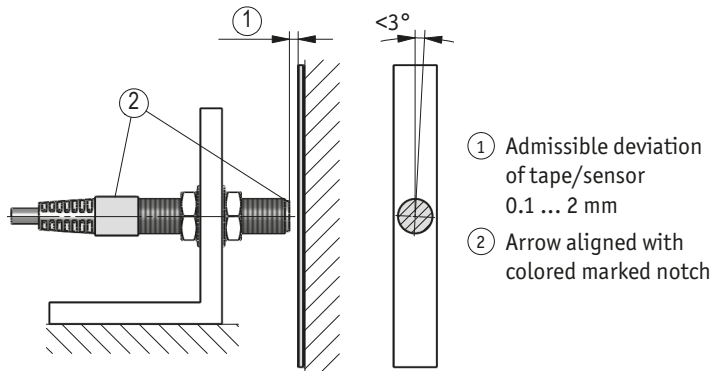

Fig. 8: Assemblage sensor / magnetic tape, gap measure, tolerances
- The distance tolerances were not observed over the whole measuring length (see Fig. 7, Fig. 8).
- The magnetic sensor has been mounted with the active side turned away from the band (see Fig. 7, Fig. 8).
- Magnetic sensor has not been aligned according to Fig. 7, Fig. 8.